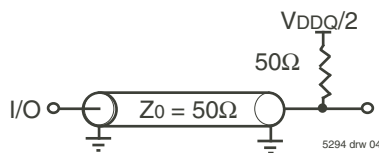

Figure 1. AC Test Load
| AC Test Load                   | See Figure 1    |
- These parameters are guaranteed with the AC load (Figure 1) by device characterization. They are not production tested.